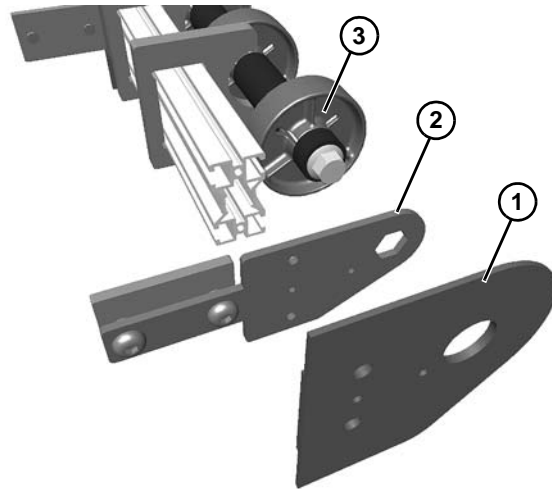

Figure 95
10. Remove filler plate (**Figure 95, item 1**) and backing plate (**Figure 95, item 2**) off of each side of idler tail assembly.
11. Remove idler spindle (**Figure 95, item 3**) from assembly.